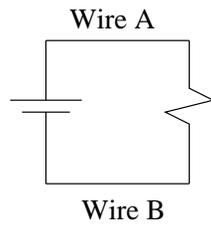

Figure 4: Simple circuit. Indicate the direction in which current is flowing through Wire A, through Wire B, and through the resistor.
- Draw arrows on the circuit diagram in Figure 4 to indicate the direction in which current is flowing through Wire A and through Wire B.
10. Draw an arrow on the circuit diagram in Figure 4 to indicate the direction in which current is flowing through the resistor.